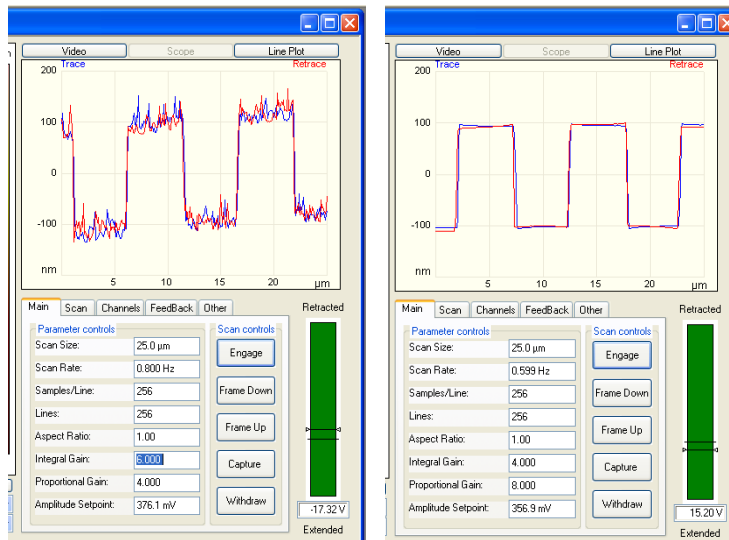

Figure 28. Too much integral gain (Left); just right (Right)
1. INTEGRAL GAIN: Look at the scope plot of the Trace and Re-Trace (Blue and Red) lines as the tip scans across a topographic feature. The red and blue lines should overlap. If they don't, for example see Figure 27, then increase the Integral Gain until the amplifier begins to oscillate and produce noise in the trace – then reduce the gain until the noise (oscillations) disappears (Figure 28). What is happening in this case (Figure 27) is that the gain of the amplifier is not sufficient to react to the tip falling into a hole, so the falling edge of both the red and blue traces are quite slanted.